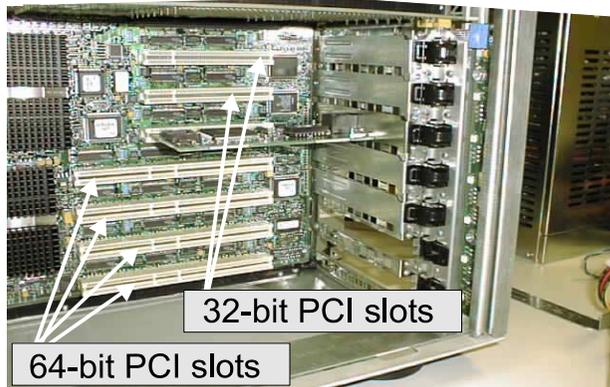

Figure 2-5. Choose an Available PCI Slot
1. Choose any available 32-bit or 64-bit PCI slot as shown in Figure 2-5.